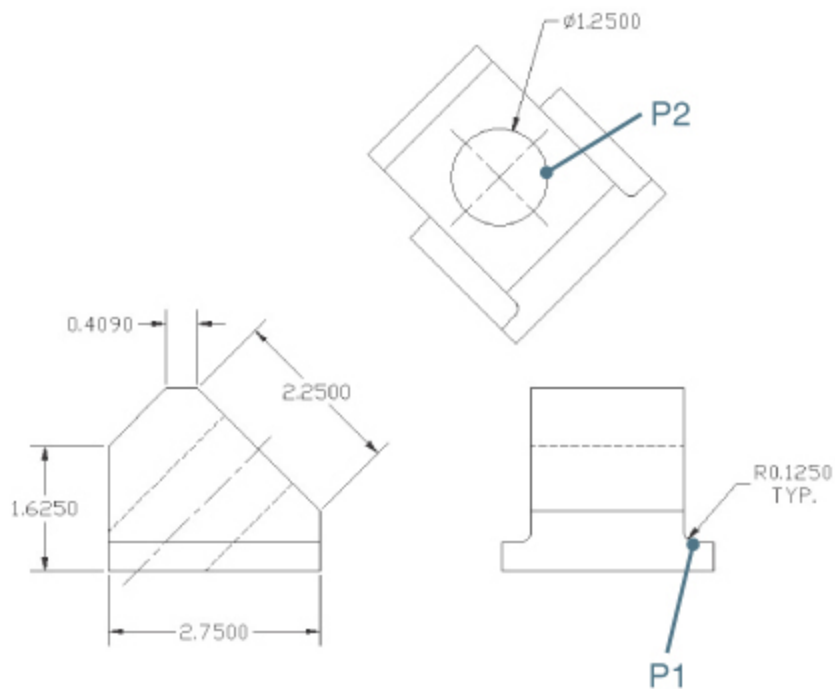

Figure 13-21
- 3 Pick the arc at P1 shown in Figure 13-21. AutoCAD places the defpoints at the center of the arc and at the point you selected on the arc. You are then prompted to *Specify dimension line location or =*.
- 5** Place the dimension line as shown in Figure 13-21.
- 7** Pick the circle at P2 shown in Figure 13-21. AutoCAD places the defpoints at the center of the arc and at the point you selected on the circle. You are then prompted to *Specify dimension line location or =*.
- 8** Place the dimension line as shown in Figure 13-21.
- 9** Save your drawing. Your drawing should look like Figure 13-21.